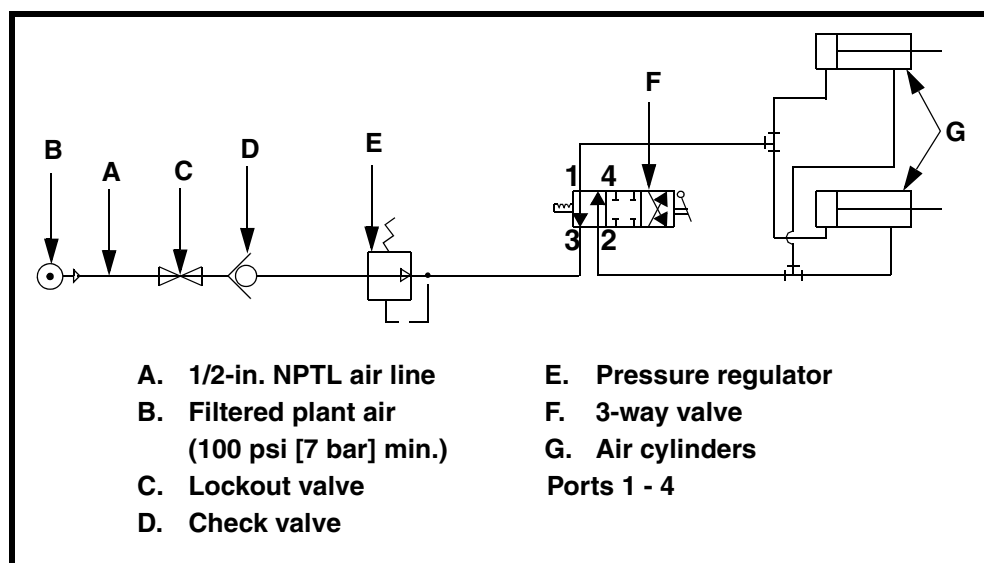

Figure 12. Air Cylinder Schematic (dual tensioners)
12. Install air line to air tensioner as shown in Figure 12.